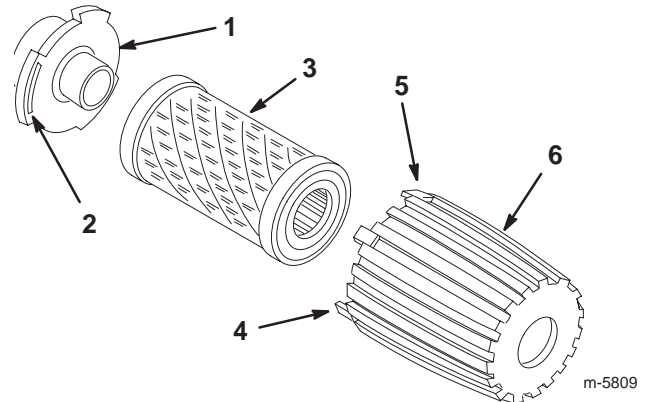

Figure 20
1. Turn the cover counterclockwise and remove the cover and the filter (Fig. 20).
2. Clean the cover and the flange thoroughly (Fig. 20).
3. Insert the new filter into the cover (Fig. 20).
4. Position the cover and the filter against the flange with the tab on the cover inserted into the lower left corner of the slot in the flange (Fig. 20).